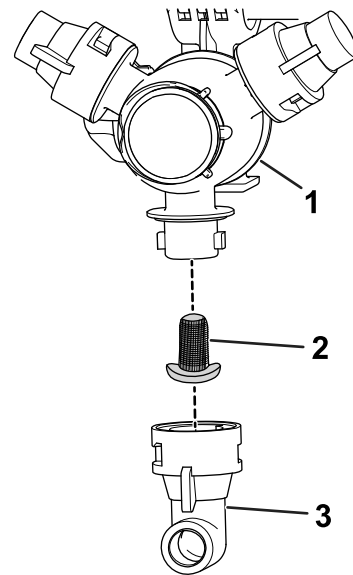

Figure 58
2. Remove the nozzle from the spray turret (Figure 58).
3. Remove the nozzle filter (Figure 58).
5. Install the nozzle filter (Figure 58).
6. Install the nozzle onto the spray turret (Figure 58).